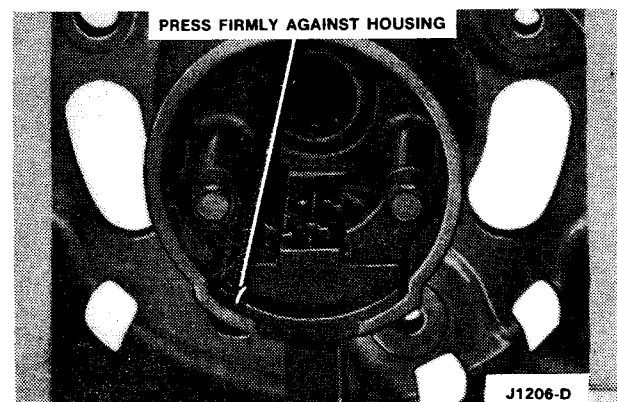

FIG. 20 Brush Lead Positions
8. Position the brush holder assembly in the rear housing and install the mounting screws. Position the brush leads in the brush holder as shown in Fig. 20.